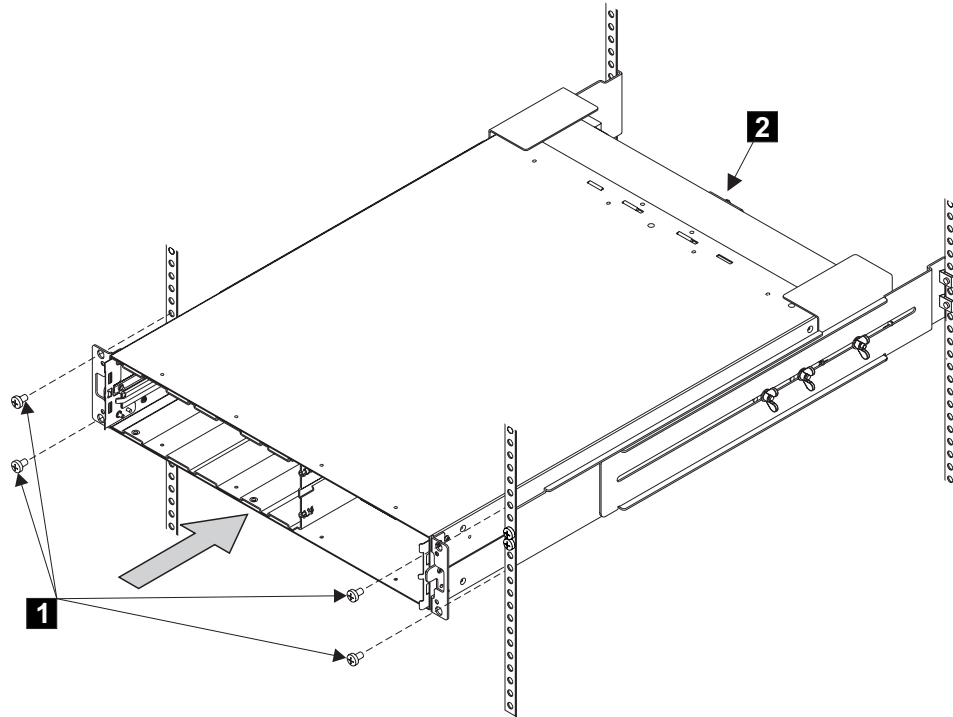

Figure 211. Replacing the 2145 UPS into a rack
5. Install the front flathead screws **1** (see Figure 211).